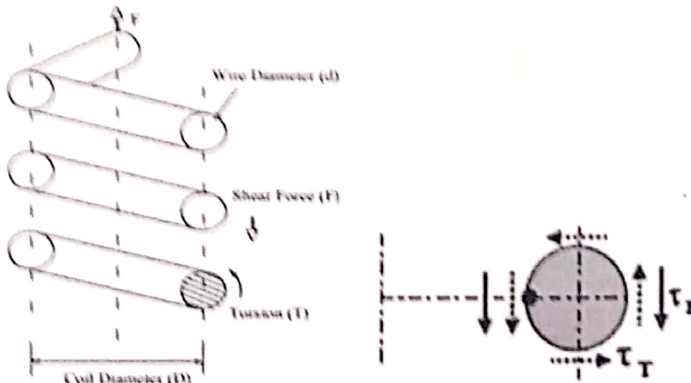

Fig. 1
- a) Given Figure 1 below, derive an expression for the maximum shear stress acting on the spring assuming spring index  $k_s = 1 + \frac{1}{2c}$ . Where T = Torque acting on spring, F = Force, D = Diameter of spring and d = diameter of coil. Take  $\tau_F$  and  $\tau_T$  as stress in spring due to force and torsion respectively.